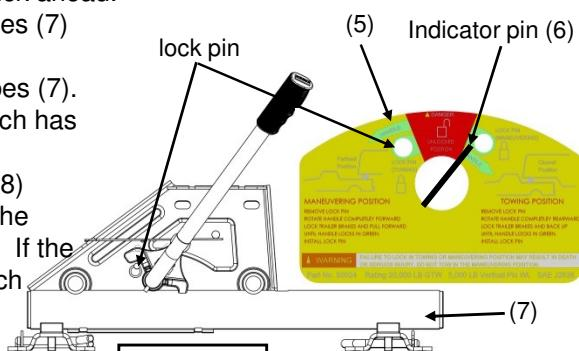

Figure 18
5. Return to truck. Release emergency brake. Manually engage trailer brake and back truck rearward until REESE™ FIFTH Wheel Slider stops near the bolt on foot (Figure 12) and the latch engages in the towing position (see Figure 18).
- D. Install lock pin completely in towing hole. (see figure 18)
7. Examine the warning label (5). Indicator pin (6) should now be over the green range on the right side of the warning label (5) (see Figure 18). If the indicator (6) pin is over the red range on the warning label (5), the latch has not engaged the tubes (7).